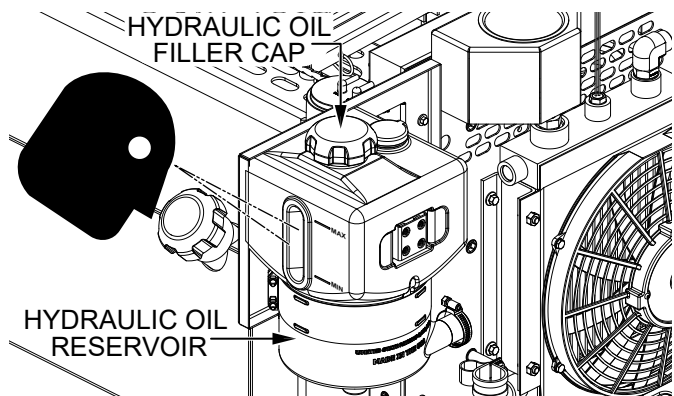

Figure 16. Hydraulic Oil Level Inspection
3. If the hydraulic oil level is low, remove the **hydraulic oil filler cap** (Figure 16), and add hydraulic oil up to a level midway between the **MIN** and **MAX** lines on the reservoir. **DO NOT** overfill. Use only Parker DuraClean ISO 46 hydraulic oil or equivalent. Replace the filler cap when finished.